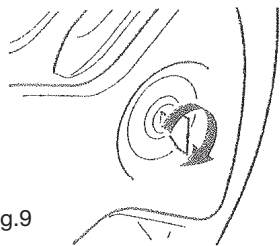

Fig.9
- Hold the lock fast and lock. **(Fig 9)**